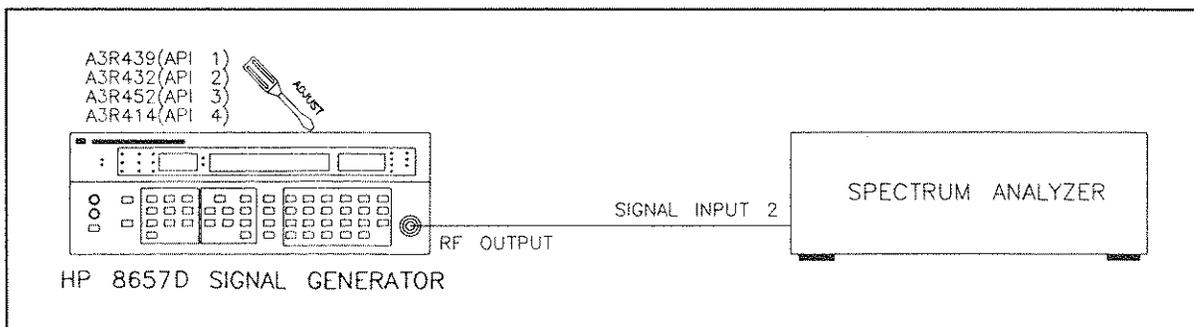

Figure 5-15. API 1, 2, 3 and 4 Adjustment Setup
3. Connect the RF OUTPUT of the HP 8657D to the spectrum analyzer as shown in Figure 5-15.